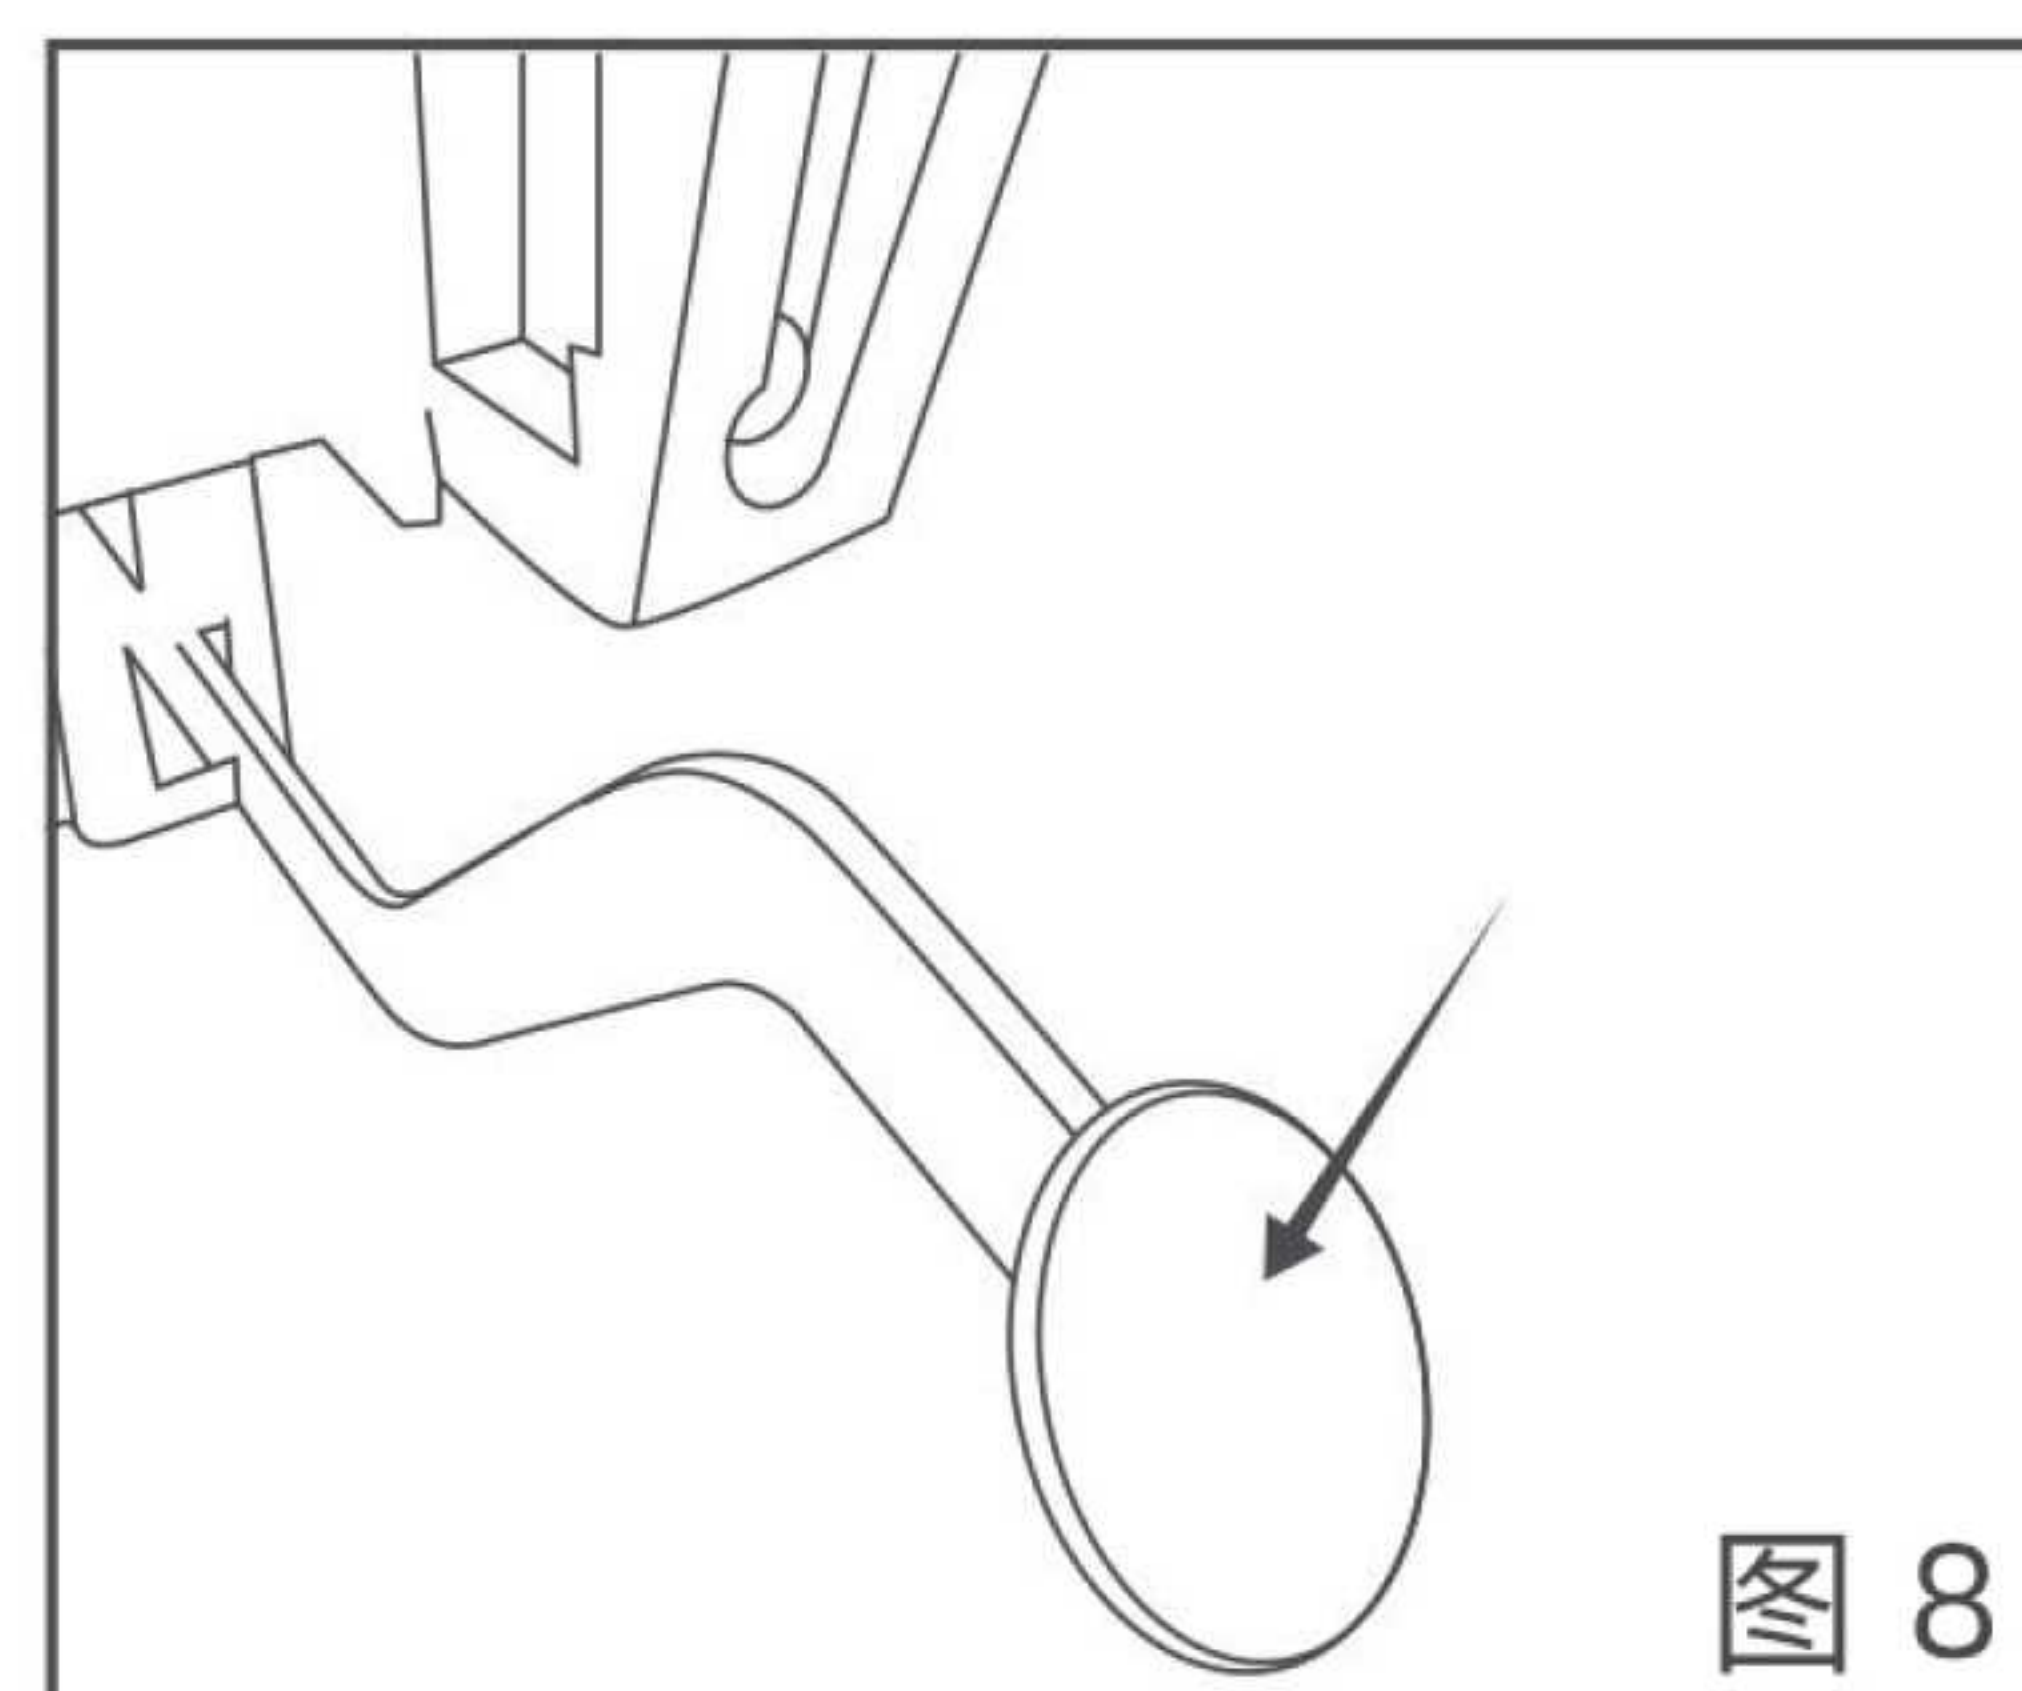

图 8
- 踩下刷盘升降踏板并向左移动，使刷盘落地(图8)。
Step on the brush disc lifting pedal and move it to the left to lower the brush disc to the ground (Figure 8).